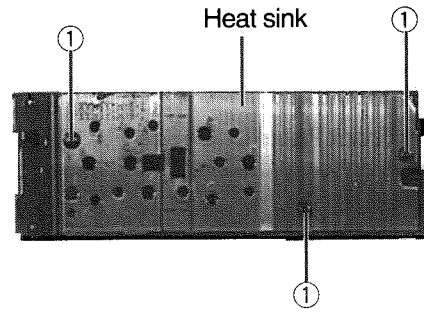

Fig. 5
■ Removing the Heat Sink (See Fig. 5)
3. Remove the three screws ① retaining the heat sink.